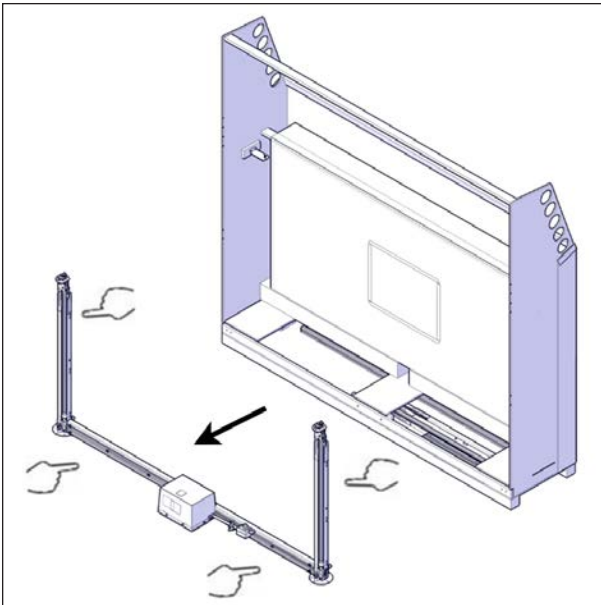

FIGURE 27: REMOVE MOTOR FRAME ASSEMBLY
9. With the help of another worker, remove the motor frame assembly from the crate. Install one hand under the horizontal portion of the motor frame and the other hand on the vertical jack see Figure 27. Handle and carry the assembly with care, so that the jacks follow the natural bending of the U-frame. Install the motor frame assembly on a level surface and make sure it will not fall.